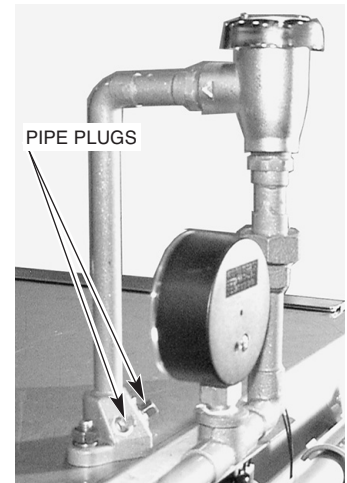

Fig. 27
The rinse line flange connector on top of the dishwasher has two 1/8 inch NPT pipe plugs (Fig. 27).
- Remove the plug(s) (Fig. 27) for installation of the rinse aid dispenser tube and / or chemical sanitizer tube, as needed.